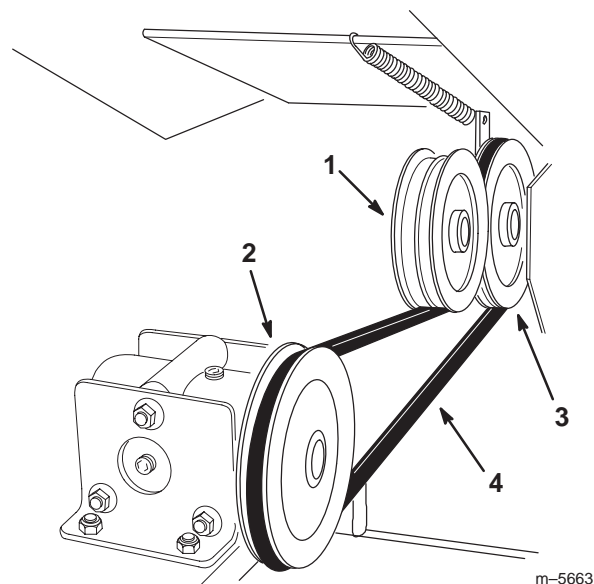

Figure 7
2. Lift the idler pulley and install the drive belt onto the traction unit output pulley and gearbox input pulley (Fig. 7).
3. Release the idler pulley to allow the pulley to spring back on top of the drive belt (Fig. 7).